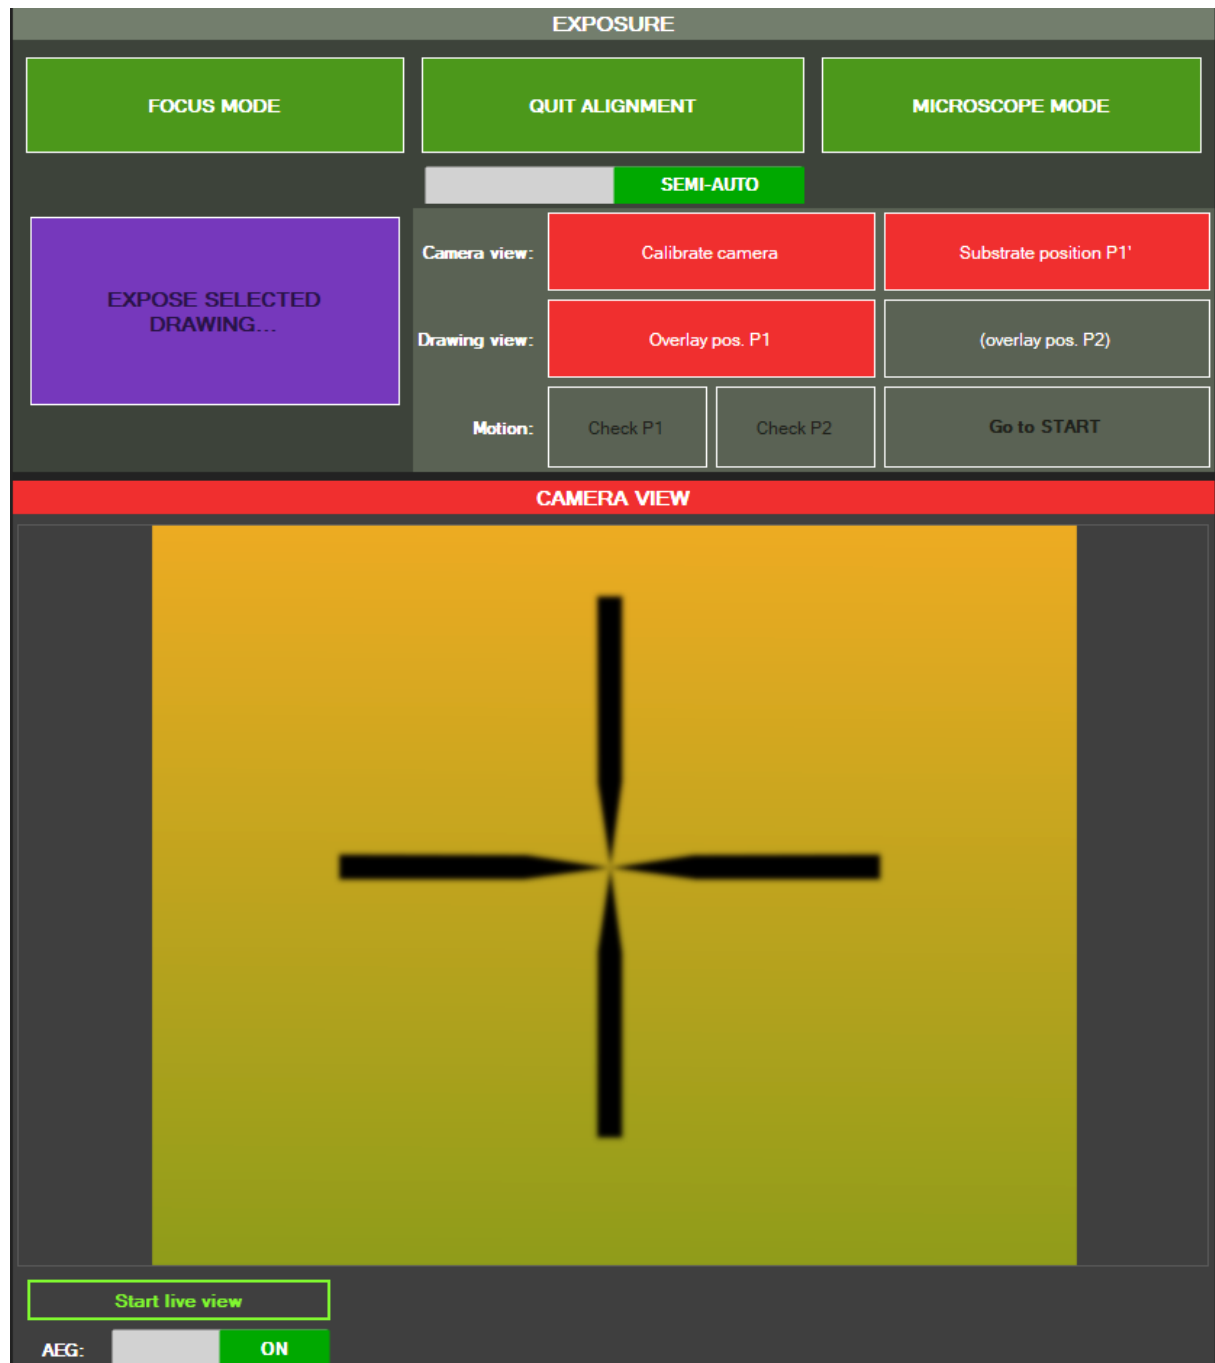

Figure 59 - Semi-auto alignment: camera calibration
- Camera calibration (Figure 58a): click on the **Calibrate camera** button. The camera live view may start and the mouse cursor shape may change. In the **CAMERA VIEW** panel, click on the central part of the displayed cross (Calibration point) as shown in Figure 59.